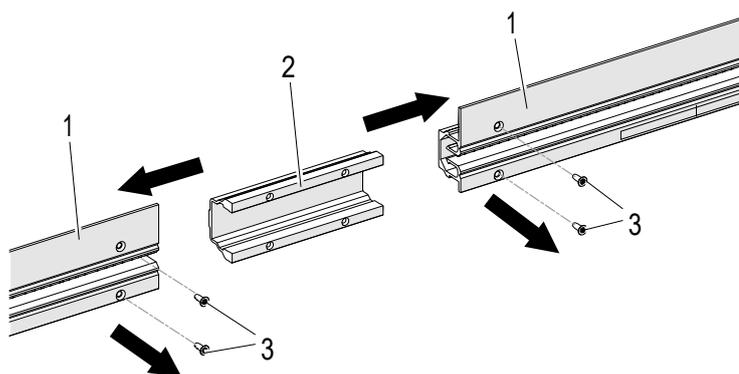

Fig. 70: Disassemble connector
- Loosen the 4 self-tapping screws M3 x 8 (3) to disassemble the connector (center) (2) (screw type: Hexagon socket (TorxPlus) TP 10) (see Fig. 70).
- Slide rails (1) off the connector (center) (2) (see Fig. 70).